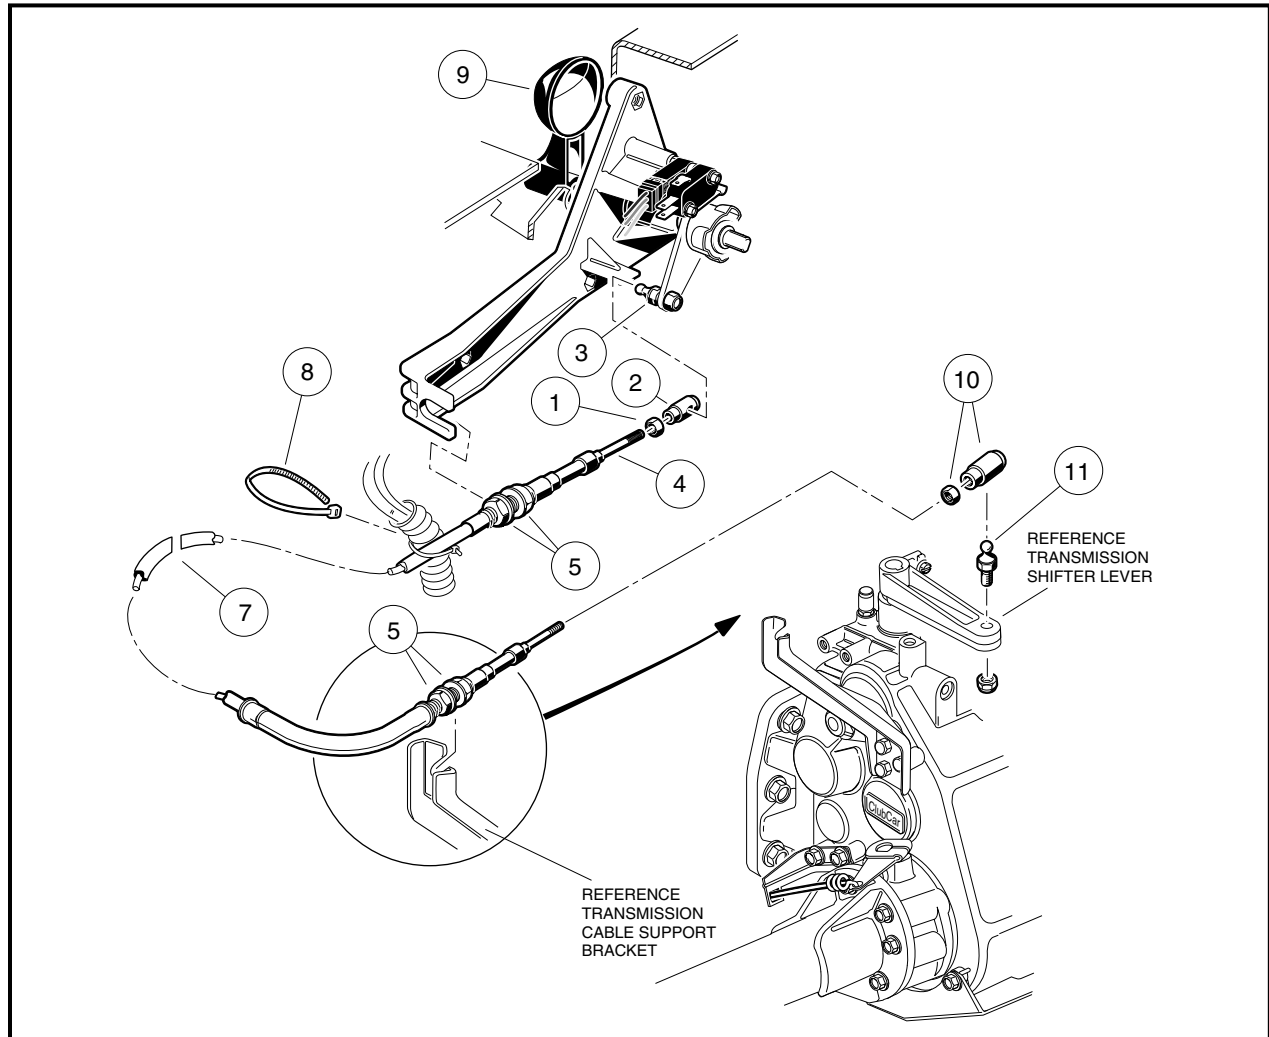

Figure 16b-118 Forward/Reverse Shifter Cable
- Secure the cable with retaining nut (5) on each side of the shifter cable support bracket at the transaxle (Figure 16b-118, Page 16b-50). Tighten nuts to 22 ft-lb (29.8 N·m).
- Secure the cable with retaining nut (5) on each side of the shifter cable support bracket at the Forward/Reverse assembly. Tighten nuts to 22 ft-lb (29.8 N·m).
- Install the ball joint socket (10) on the shifter lever ball stud (11) on the transaxle.
- Install the ball joint socket (2) on the Forward/Reverse shifter assembly ball stud (3).
- Install wire tie (8) to secure wire harness to cable at the support bracket near the Forward/Reverse shifter assembly. **See following WARNING.**